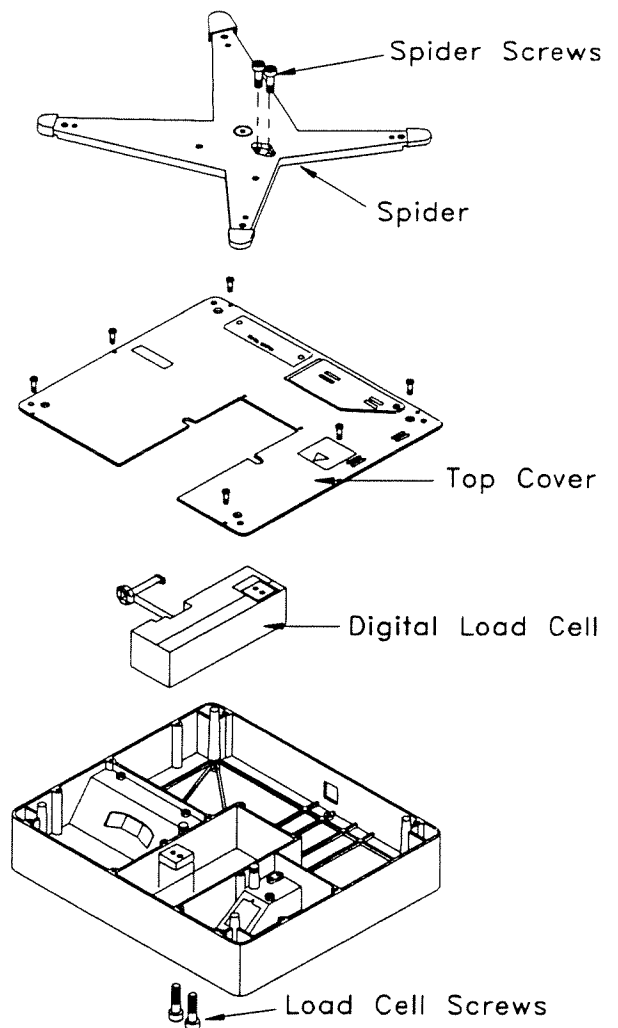

Figure 8.6 8213 Load Cell Replacement
- 8.3.2 Remove the Platter. Using the 1-3/16" Allen Wrench, remove the spider hex screws, then remove the top cover screws as shown in Figure 8.6. Remove the top cover.